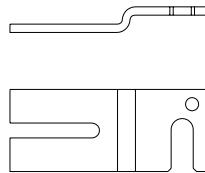

Figure 2-2 Accessory of the cabinet
(3) Figure 2-2 shows the installation accessory of the cabinet.